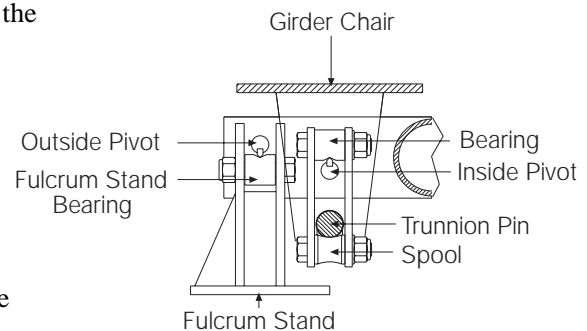
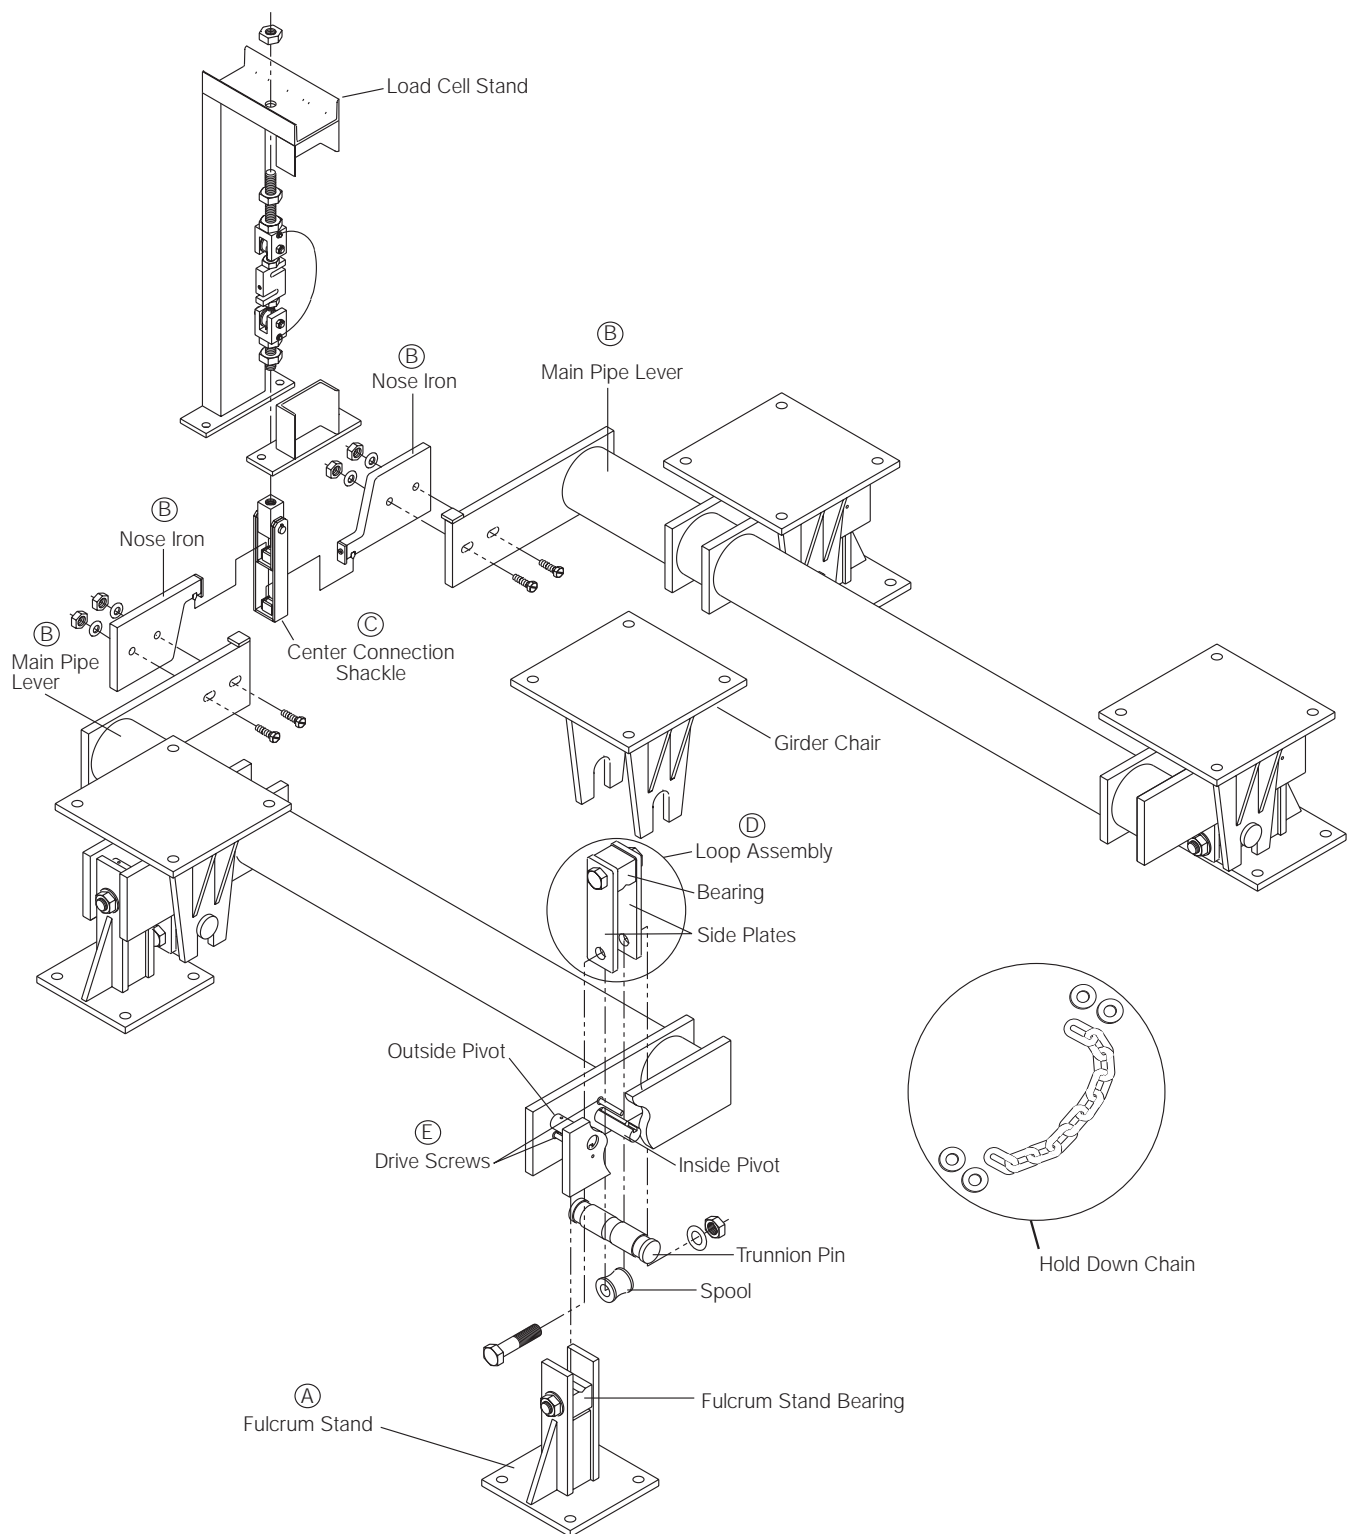

Figure 2: Fulcrum Stand Assembly
Figure 4: Pipe Lever Assembly
1. Position the four fulcrum stands on the concrete base with gussets facing outward from the scale (see Figure 4, A). Ensure that the fulcrum stands are square and level with each other. If mounting the scale to a frame, be sure the frame is square and all stands are positioned squarely on the frame.
3. Loosely bolt nose irons to the ends of the main pipe levers (see Figure 4, B).
4. Set pipe levers in place with their outside pivots on the bearings of the fulcrum stands (see Figure 2) and their nose irons supported by the center connection shackle in the load cell stand (see Figure 4, C).
5. Locate the package of components for the four main lever loop assemblies. Attach the bearing to the two side plates for each loop assembly (see Figure 4, D). Place the loop assemblies over the inside (load) pivots, then assemble spools.
6. Hold the trunnion pins in place on the loop assemblies, and set the girder chairs on the trunnion pins (see Figure 2). Tilt the chairs inward against the main pipes to support the chairs until the hopper/tank is added.
Note: For 25K, 30K, 40K, and 50K scales, also check that the anti-friction drive screws in the levers are not contacting the bearings but have an equal gap on both ends of each bearing (see Figure 4, E).